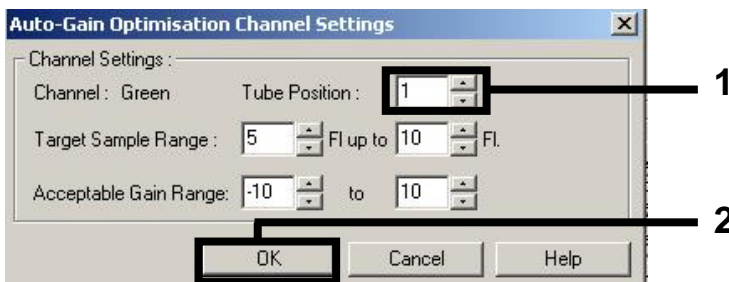

Figure 2. Setting the tube position.
2. Set the tube position for a tube for the first *artus* assay (e.g., CMV). Set the tube position for all fluorescence channels, and click **OK** (Figure 2).